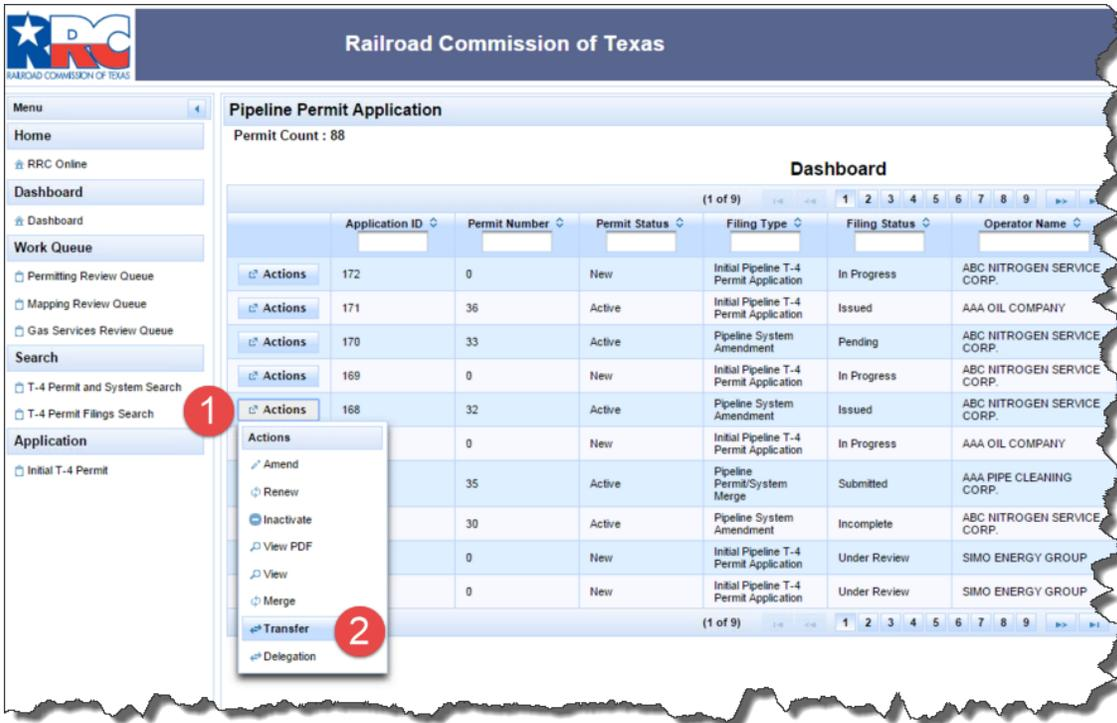

Figure 126: Supervisor System Transfer, Steps 1 and 2
1. Click the **Actions** button on the row containing the permit to transfer, as depicted in Figure 126.